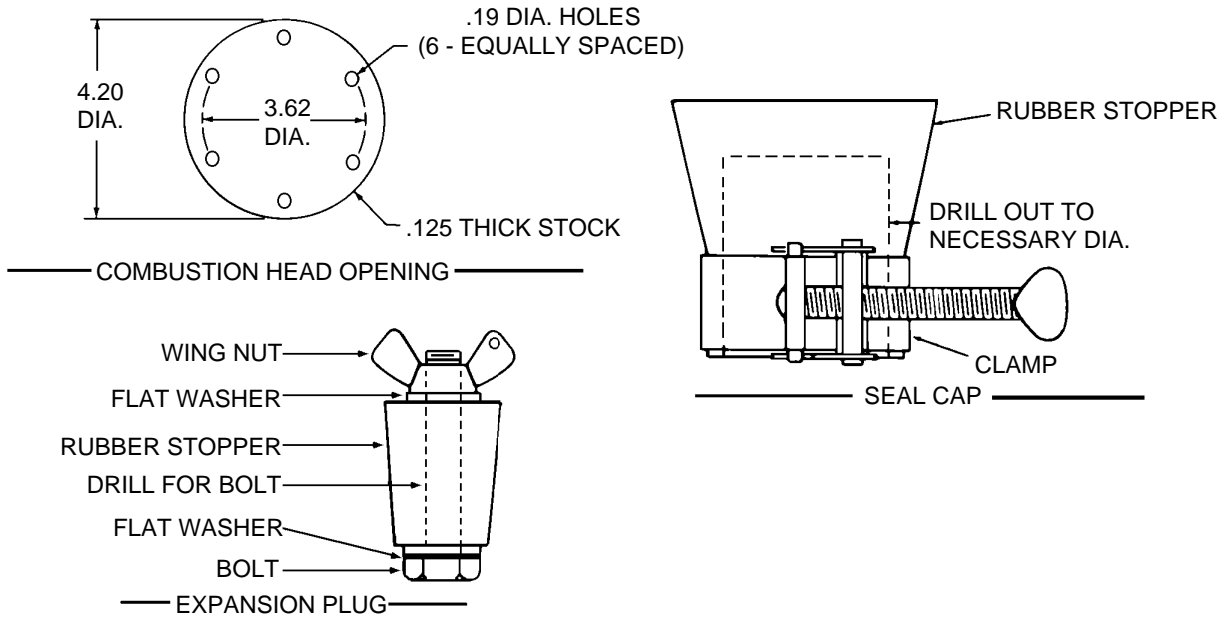

Figure 21-14. Suggested Design for Seal Plates, Plugs and Caps for Combustion Tube Leakage Test
- a. Fashion a sealing plate from approximately 1/8 inch thick flat stock to seal the combustion head opening in the combustion tube assembly. (Refer to Figure 21-14.) Use a rubber gasket under the plate and attach the plate with six screws.
- b. Make up seals for all remaining openings, except the one used to connect the air pressure source. (Refer to Figure 21-14.) Use rubber stoppers as shown. The combustion air inlet tube can be sealed best with a drilled stopper and clamp. Other openings should be sealed with expansion plugs. The seal used in the exhaust tube should be formed so that it will not deform the air pressure switch tube which protrudes into the exhaust.